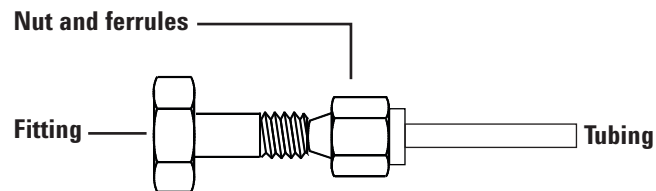

Figure 15 Assemble the fitting
- 2 Push the tubing towards the base until it rests firmly against the shoulder in the fitting, and make sure that the front ferrule is touching the fitting. Slide the Swagelok nut over the ferrule and thread it onto the fitting (Figure 15).